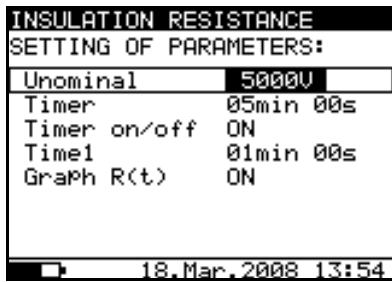

Fig. 18: Setting parameters
3. Press again the **SELECT** key to enter in the setup parameters section. The screen of Fig. 18 is shown by the meter
6. To activate the graphical screen the parameter Graph R(t) should be ON and the Timer must be activated (see Fig. 18). The time duration of graphical function is correspondent to the value of set Timer